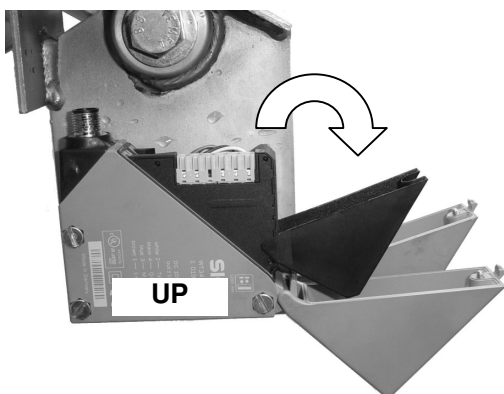

Fig 15
1. Loosen the single screw on top of each sensor and flip open the access covers (see figure 15).